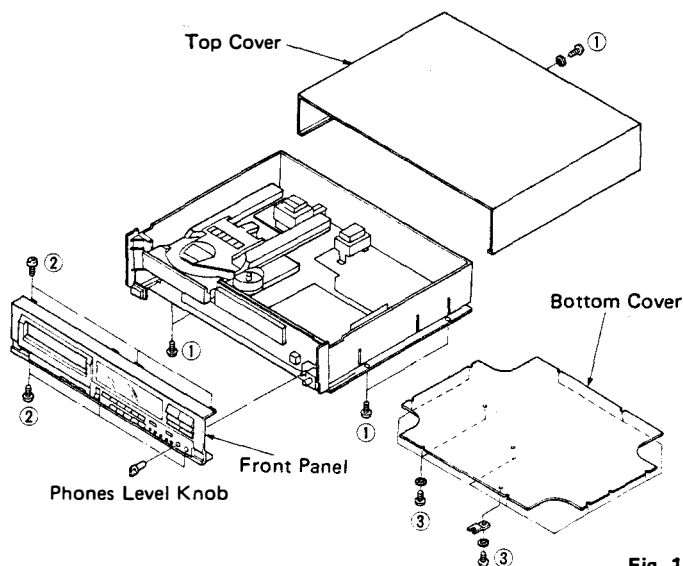

Fig. 1
- Remove 5 screws ( ① ) in Fig. 1, and slide the Top Cover to the back side.
- Remove the phones level knob in Fig. 1.
- Remove 6 screws ( ② ) in Fig. 1, and pull the Front Panel forward.
- Remove 10 screws ( ③ ) in Fig. 1.